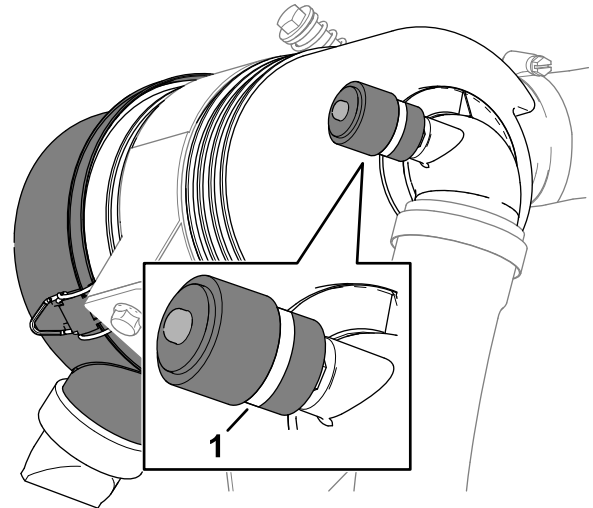

Figure 77
3. Check the service indicator at the end of the air filter housing (Figure 77).